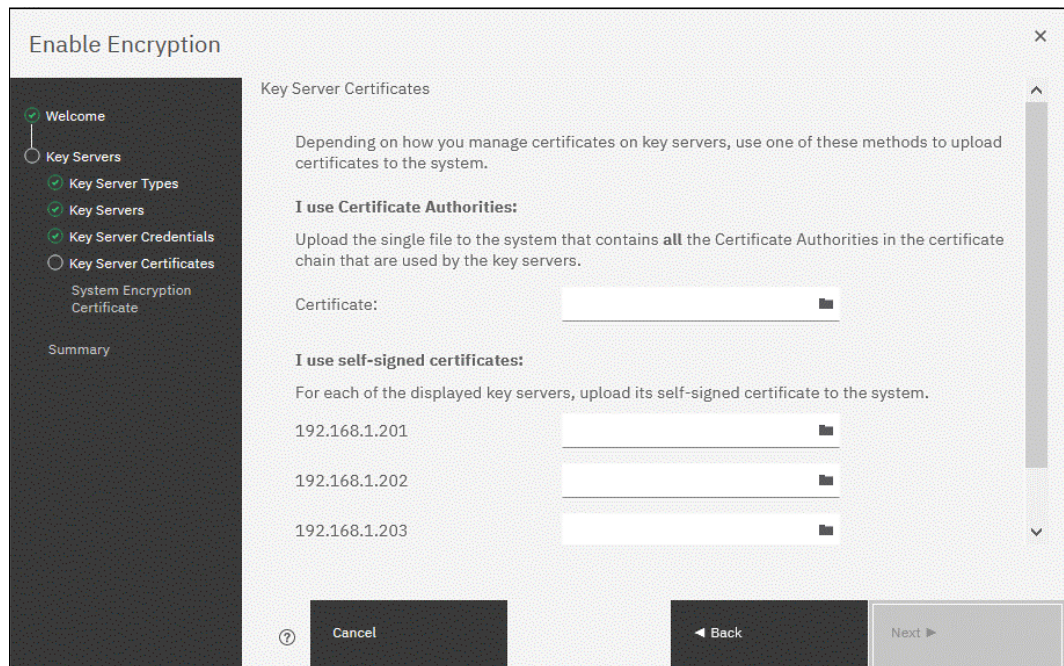

Figure 12-42 Uploading the SafeNet KeySecure key servers certificate
6. Enable secure communication between the IBM Spectrum Virtualize system and the SafeNet KeySecure key servers by uploading the key server certificate from a trusted third-party CA or by using a self-signed certificate. The self-signed certificate can be obtained from each of key servers directly. After uploading any of the certificates in the window that is shown in Figure 12-42, click **Next**.